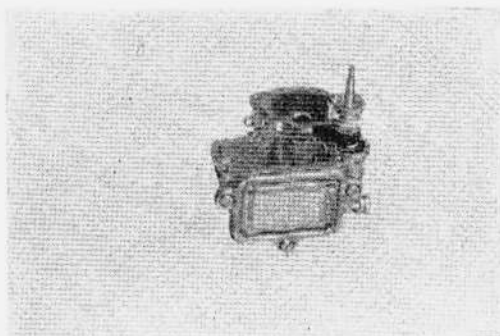

Figure 120
- (8) Take out accelerating pump (Fig. 120).